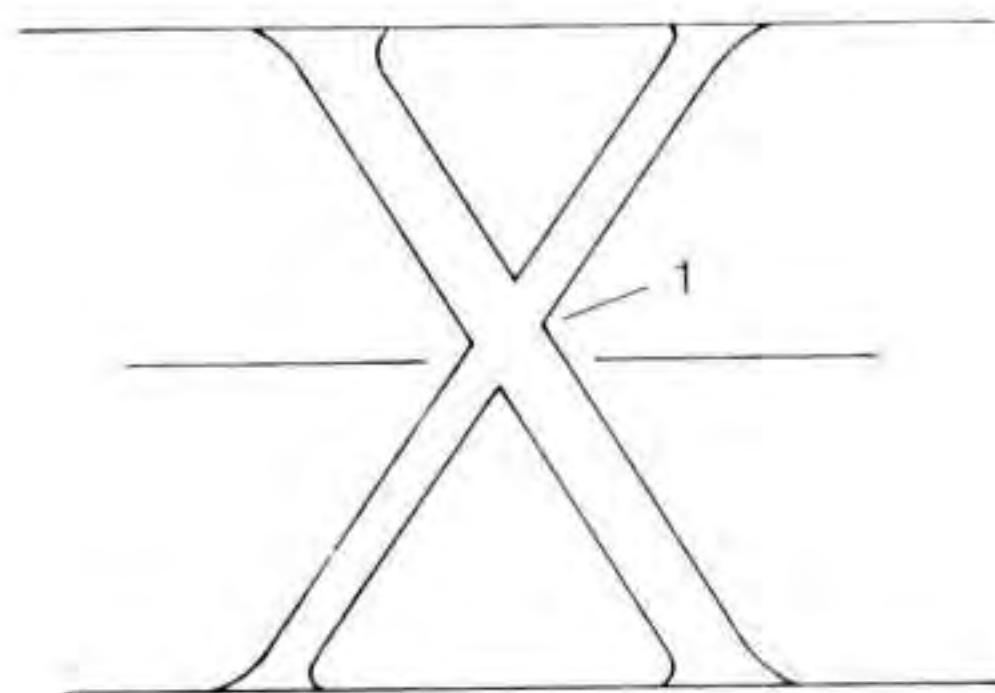

Fig 6.25 Features of the letter *X*.
See Fig 6.25. If **X** is drawn with equal symmetry above and below the mid-line, the centre of gravity looks low and the lower counter appears smaller. The junction needs to be raised by about a half unit, which will bring the top corners together a little, and open up the lower counter (1).